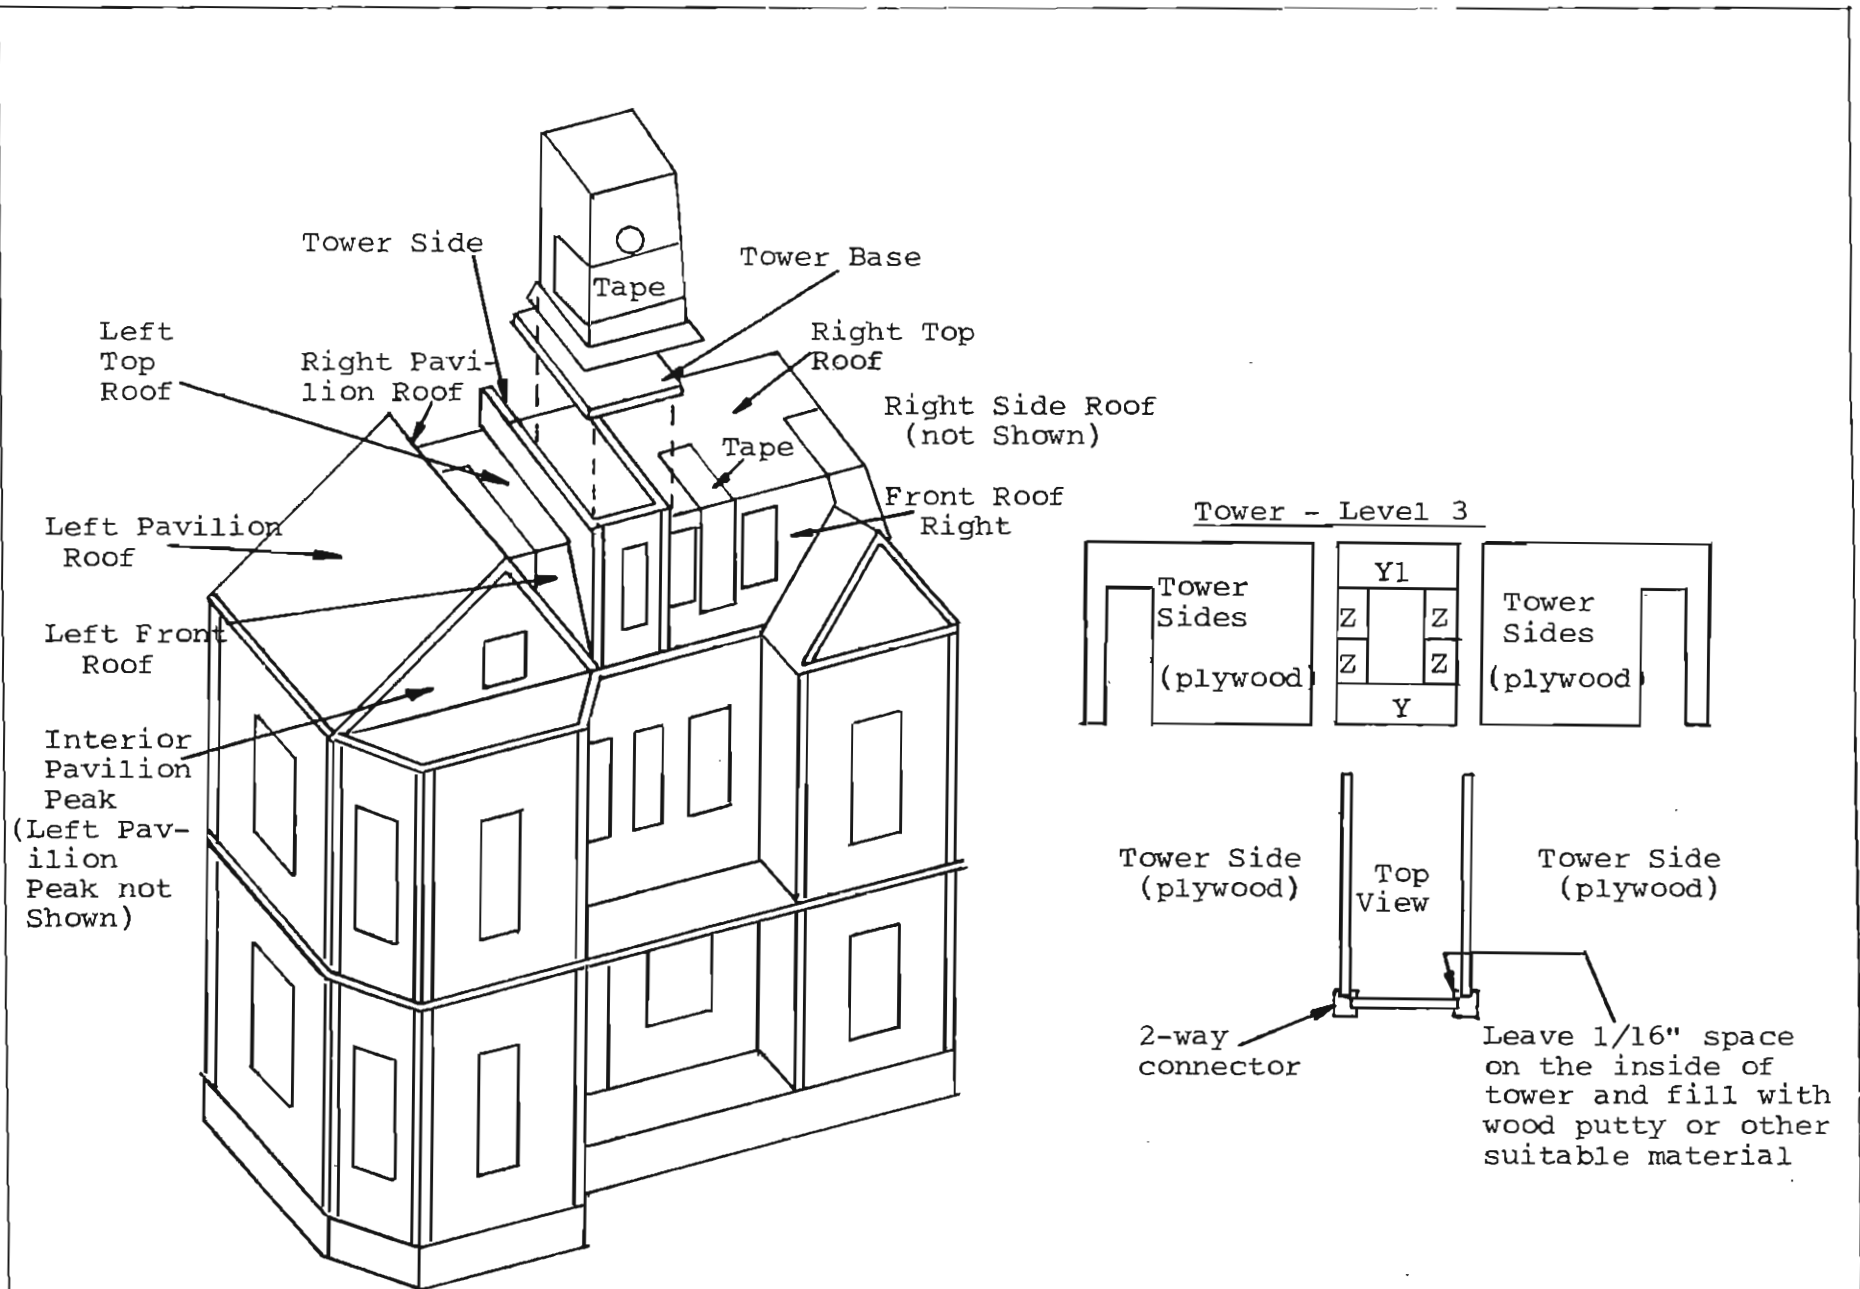

FIGURE 11
The tower clapboard parts are shown in Figure 11 and include:
Refer to Figure 11 and assemble tower front and tower sides accordingly.
Glue all four together simultaneously as shown in Figure 11.
Note: The edge of the left front roof rests on top of the right pavilion roof and against the tower side. Refer to Figure 11.
- 28) The right pavilion peak and the left and right roofs should be assembled and positioned according to Figure 11.